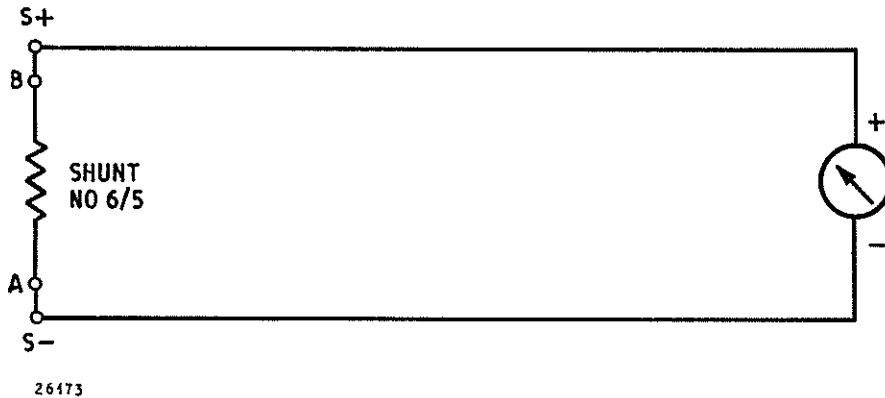

FIG 12
15 SWITCH IN POSITION 11 (S) For measurement of current up to 5 Amperes. The connections for this test are shown in Fig 12. A Shunt No. 6/5 is plugged into sockets S+ and S- the test leads are then fitted to the terminals on top of the shunt.